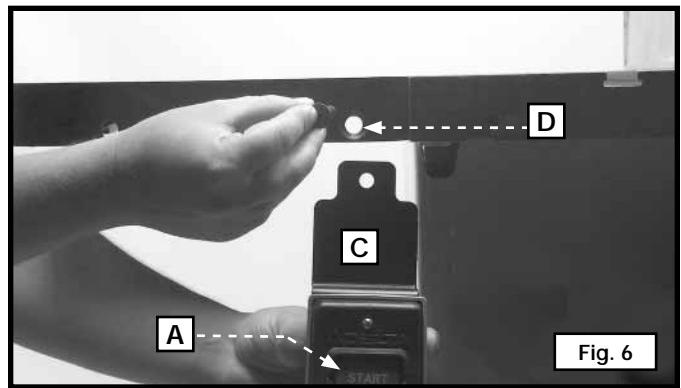

Fig. 6
Mount the LVC switch bracket (C) Fig. 6 (removed earlier) to the inside of the hole (D) on the left front edge of the extension wing. Use the hardware that was also removed.